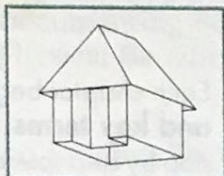

Fig. 3-5
10. Generate a view similar to the one in Fig. 3-5.